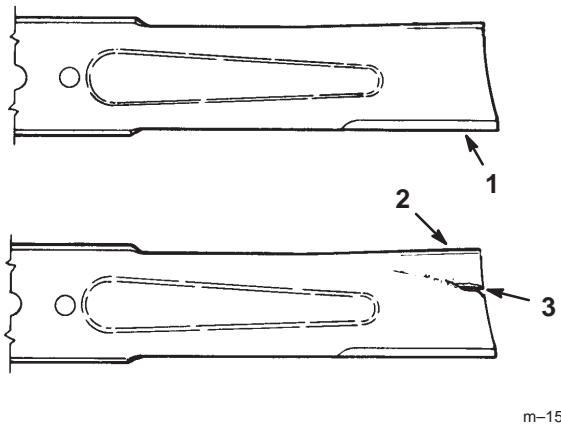

Figure 35
1. Inspect the cutting edges (Fig. 35). If the edges are not sharp or have nicks, remove and sharpen the blades. Refer to Sharpening the Blades on page 33.
2. Inspect the blades, especially the curved area (Fig. 35). If you notice any damage, wear, or a slot forming in this area (item 3 in Fig. 35), immediately install a new blade.